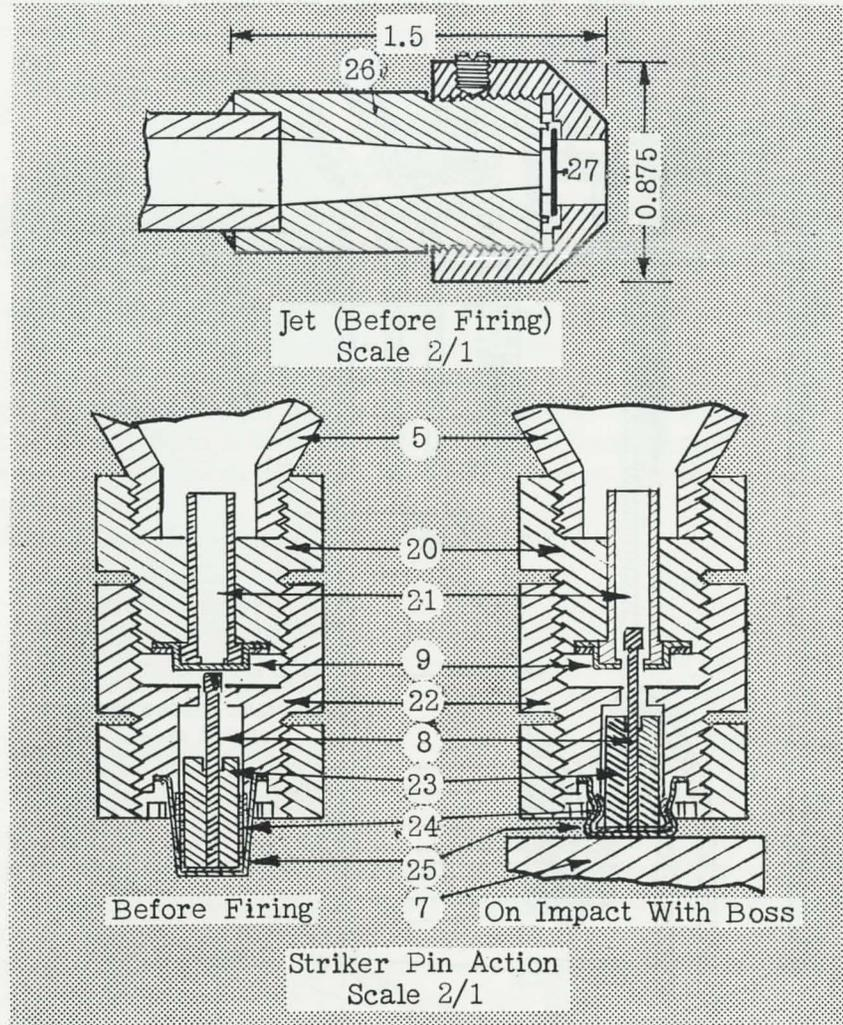

Figure 2.
When (see Fig. 2) the cartridges (6) are fired the gas cylinder (5) is forced down onto the boss (7). The brass cup (24) and lead cap (25) are collapsed and the striker pin (8) is driven forward to puncture the copper disk (9) sealing the lower end of the gas cylinder. The escaping gas forces the gas cylinder up into its original position and builds up pressure within the container until the lead disk (27) in the nozzle orifice is broken and the smoke liquid is emitted.